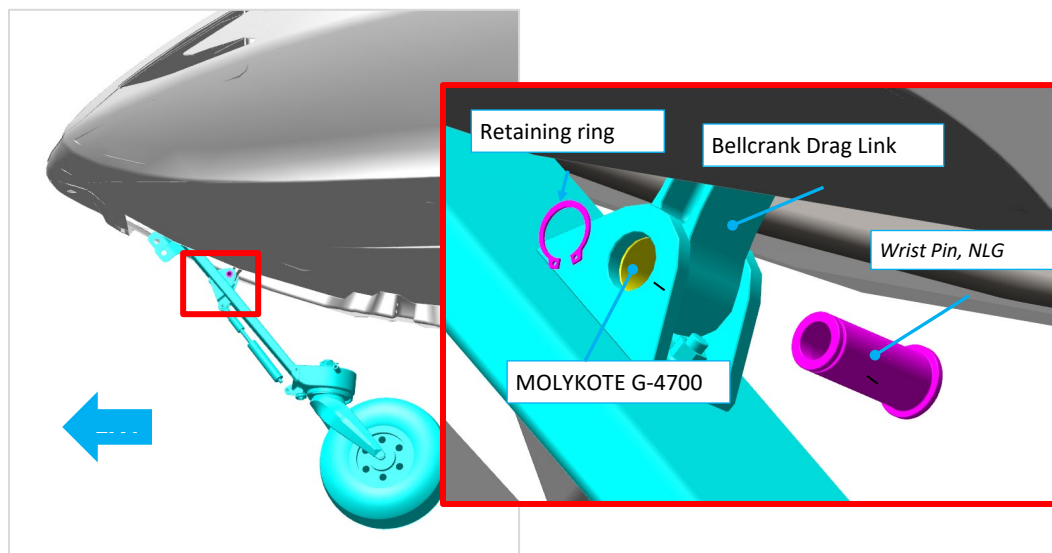

Figure 2 Release NLG Leg
5. Release NLG leg from NLG drag link by removing NLG wrist pin and retaining ring, see Figure 2 for reference. Discard retaining ring, retain pin for reinstallation.
12. Apply Molykote to the wrist pin and re-install through the NLG leg and NLG drag link as shown in Figure 2.